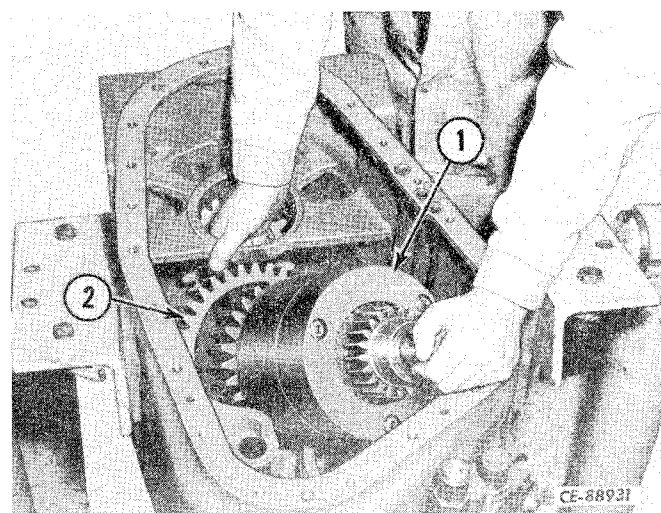

Figure 4-65
Install the 2nd and 3rd speed pack assembly (1, Fig. 4-65) with all gears on the shaft, but without the bottom bearing on the shaft (bearing will be installed later). Hold lower gear (2) from sliding on the shaft while tipping assembly to clear the internal structure of the case.